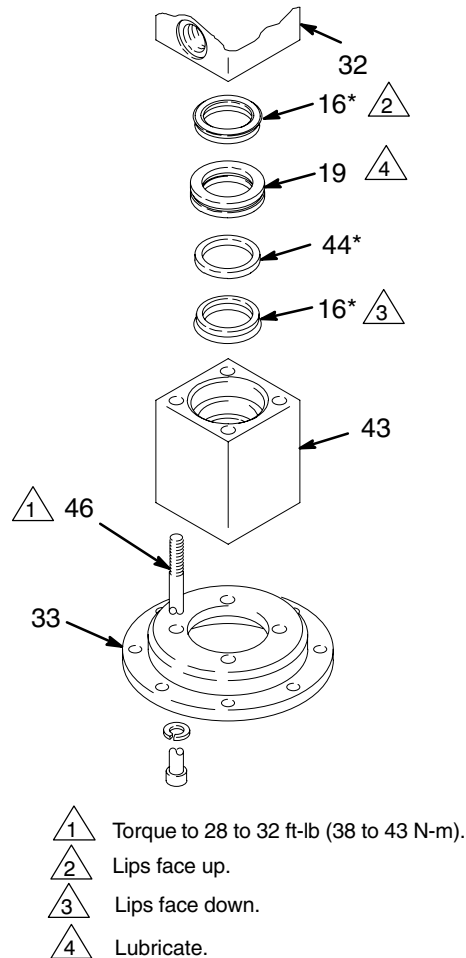

Fig. 5
See Fig. 5.
5. Lubricate the guide (19) and install the seals and guide in the adapter (43), one at a time in the order shown in Fig. 5.
6. Reassemble. Torque the capscrews (46) to 28 to 32 ft-lb (38 to 43 N-m). Install the displacement pump. Follow Step 24, page 16.